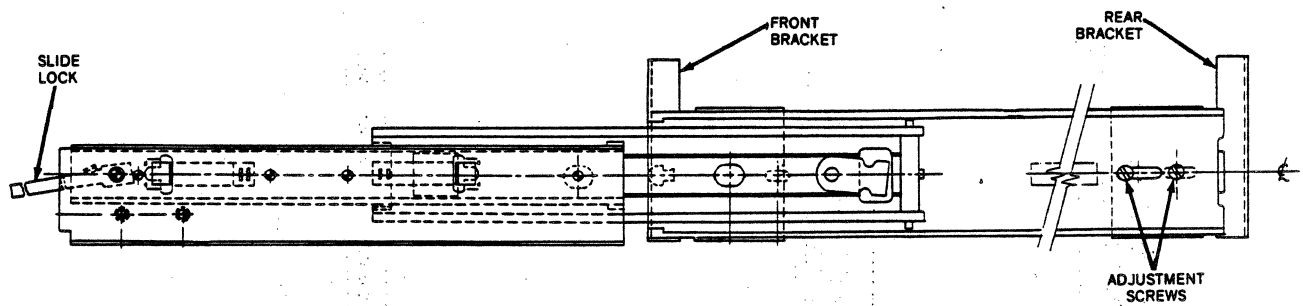

Figure 7-1. TRU-GUIDE Slide, P/N 24628-001
2. Loosen the two adjustment screws holding the back mounting bracket to each slide. See Figure 7-1.